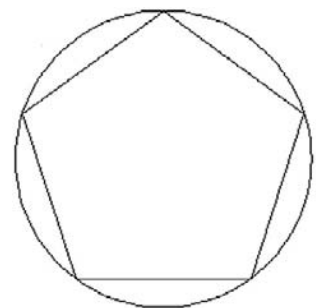

FIGURE 2.18
Step 5. Enter the value 5. A screen shot of the result is in Figure 2.18.